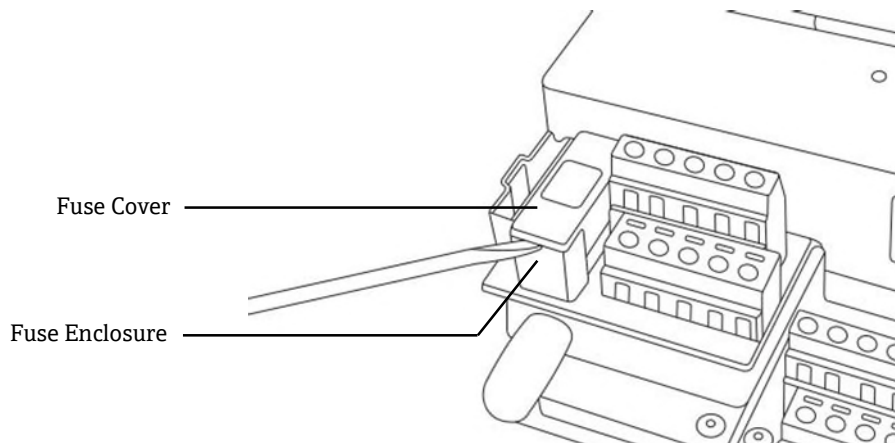

Figure 75. Removing the fuse cover
2. Using a flat-head screwdriver (or comparable), remove the cover from the fuse enclosure. Refer to Figure 75.